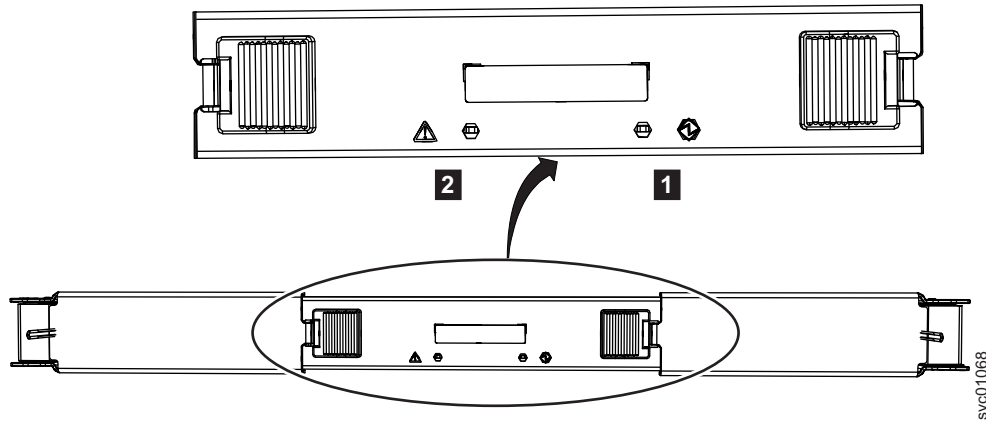

Figure 113. LEDs on a secondary expansion module
2. Identify the secondary expander module to be replaced; Figure 113 shows the LEDs on top of a secondary expansion module.